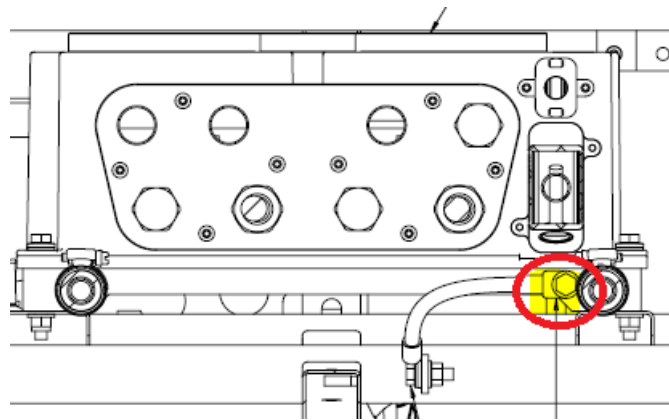

Figure 13: Inverter Upper Grounding Connection
47. Ensure the upper M8 bolts securing the grounding strap at each inverter and circled below in Figure 13 are torqued to 11 ft-lbs.